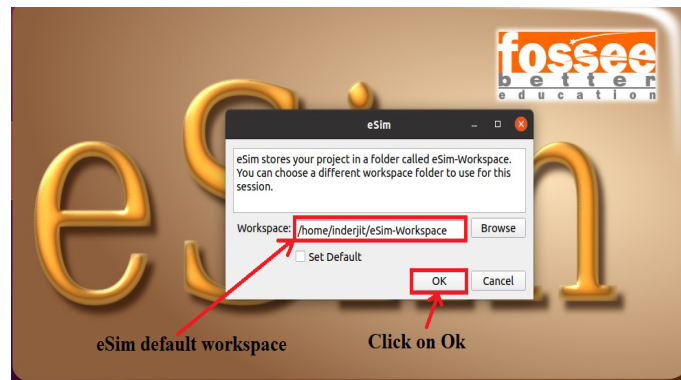

Figure 11.7: eSim workspace
1. Open eSim and select the default eSim workspace by clicking on **OK** as shown in Fig. 11.7. Its format is /home/<username>/eSim-Workspace. User-name can be user specific but be careful of the naming conventions(space is not allowed). If the user wants to select they can chose the same by using the **Browse** button in the dialog box.